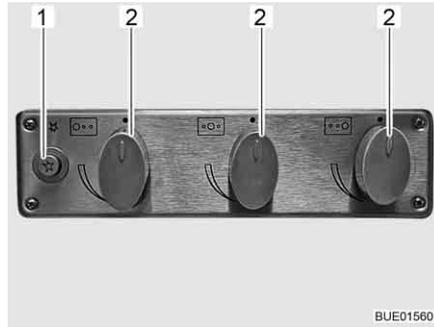

Fig. 168 Operating controls for gas cooker
- Turn the control knob (Fig. 168,2) on the burner you wish to use to the ignition position (large flame).
- Press the push button (Fig. 168,1).